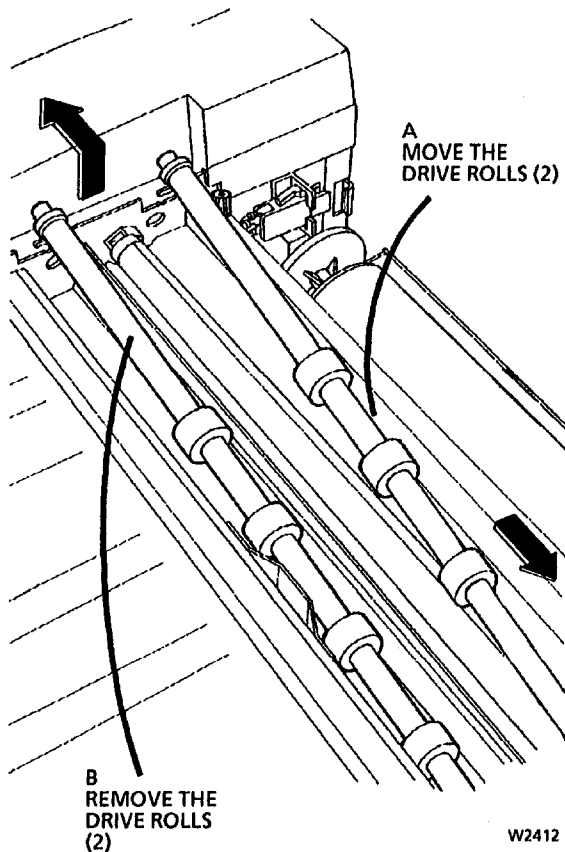

Figure 3. Removing the Document Drive Rolls
7. (Figure 3): Remove the Document Drive Rolls.